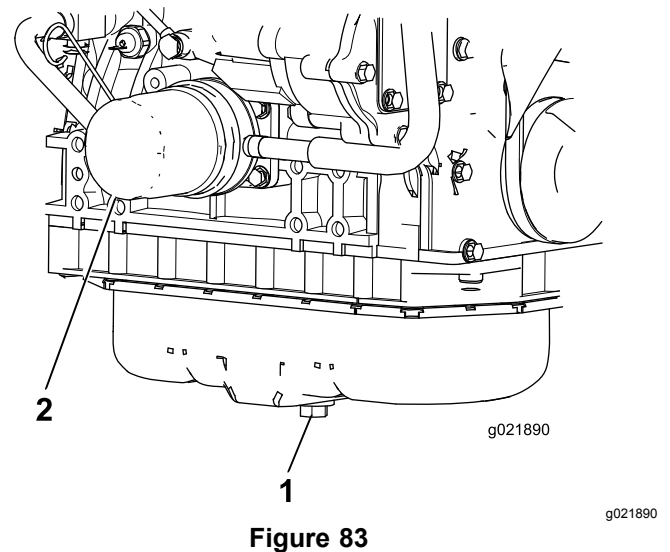

Figure 83
1. Remove the drain plug and let the oil flow into a drain pan (Figure 83).
3. Remove the oil filter (Figure 83).